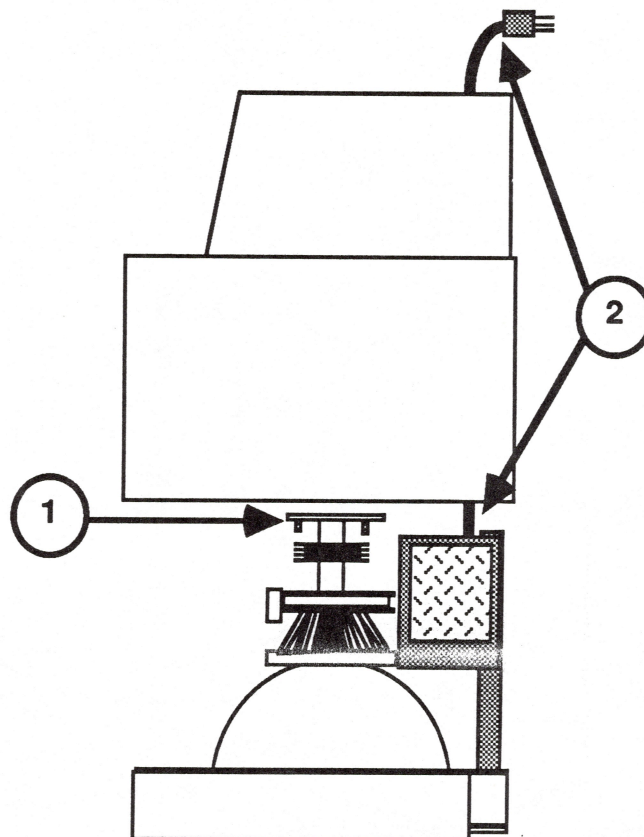

FIGURE 7
6. Carefully pull the rear cover up until it clears the CRT socket board (Figure 7, #1).
7. Pull the AC power cord (Figure 7, #2) through the opening in the rear cover.